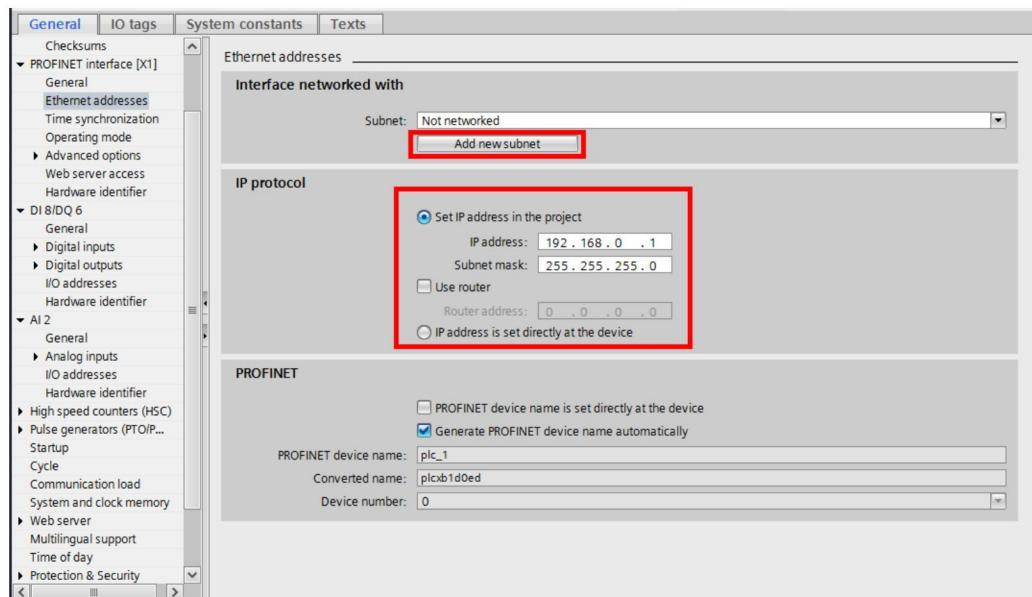

Figure 5 Configuring a new PROFINET network
4. Click and hold the green box of the gateway icon and drag it to the PN/IE_1 network (see Figure 5) to establish a connection between the gateway and PLC.